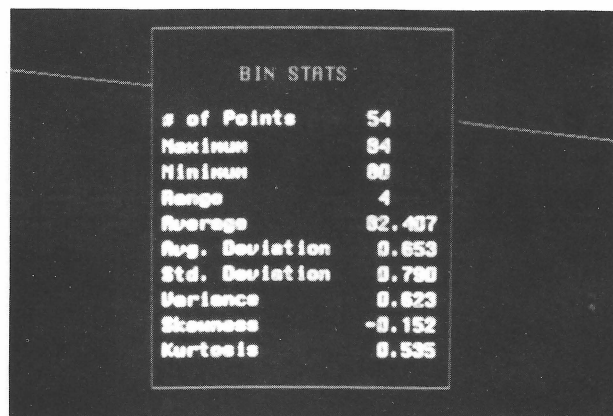

Figure 10: Statistics on a Selected Bin
- Bin statistics: - Displays statistics on the bin, such as the number of points, range of depths, and standard deviation. (figure 10)